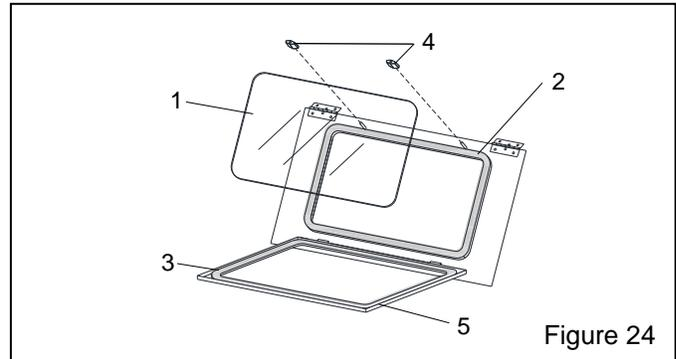

Figure 24
8.3 View-Window Assembly – Figure 24